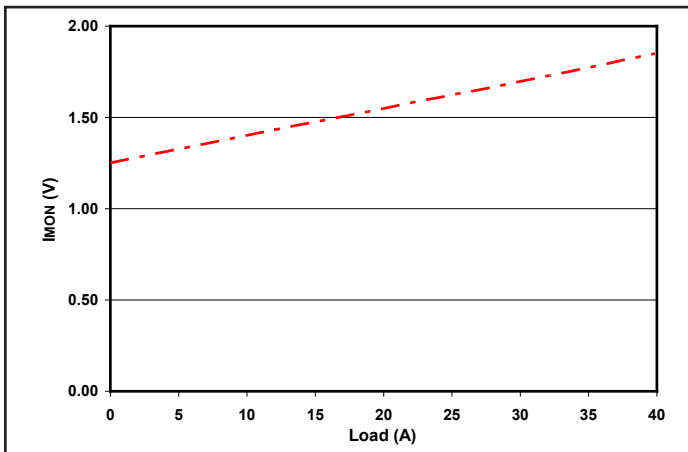

Figure 9: Imon pin voltage vs. load current at 16V input and 13.8V output. Load capacitance: 100 $\mu$ F electrolytic cap. C option only.
**Current monitor:** The  $I_{mon}$  pin voltage tracks the output current, as shown in figure 9. Zero load current is 1.25V and maximum rated load current is 1.83V. This pin has a 49.9 Ohm output impedance.